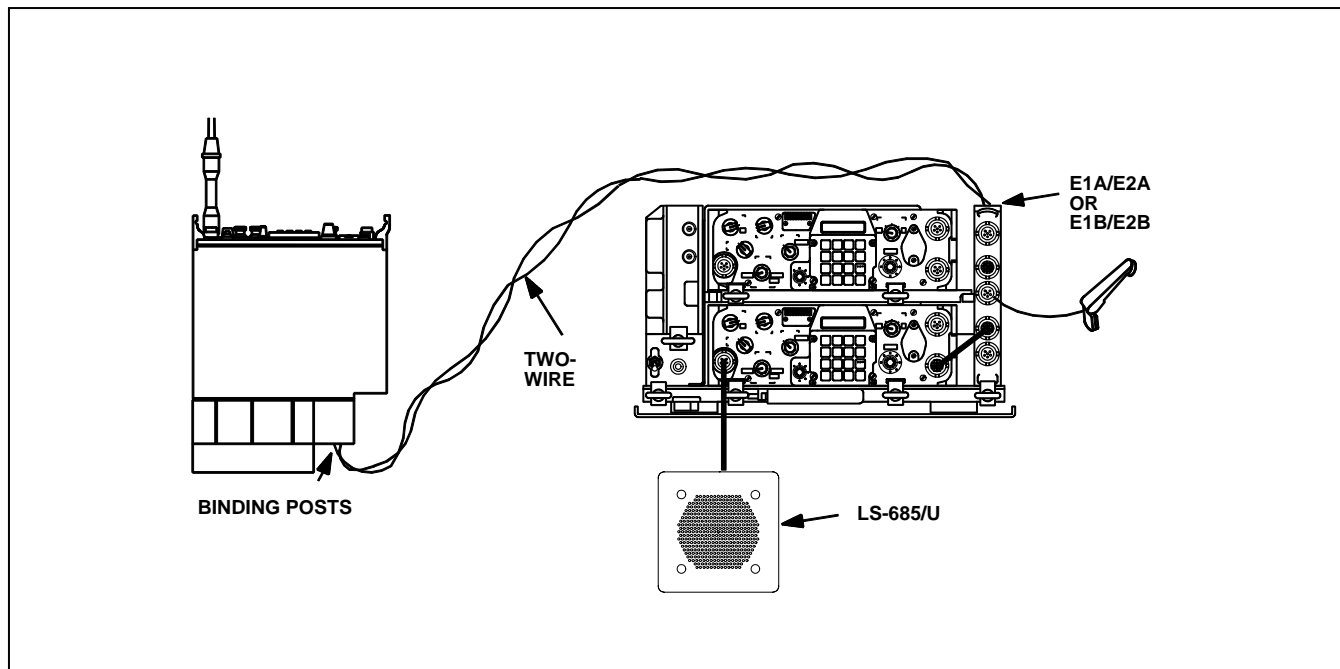

Figure 4-26. VEHICULAR MOUNTED RCU TO MANPACK RADIO
- Vehicular mounted RCU (located in VAA) to a manpack radio. (See Figure 4-26, below)